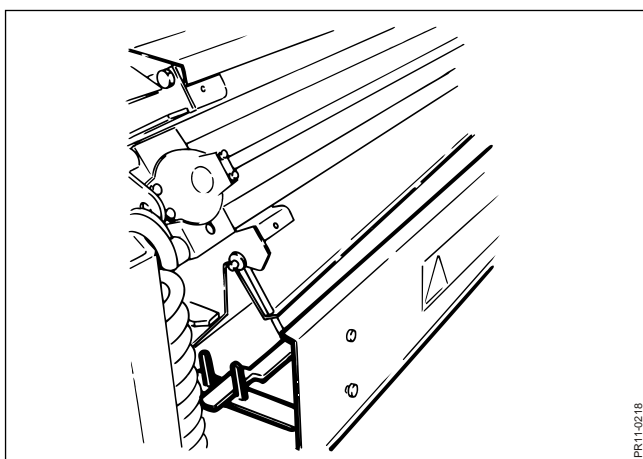

Fig. 4-20
- Fig. 4-20** 2. Lower the guard between the grinding device and the rotor so that there is free space between the device and the rotor.